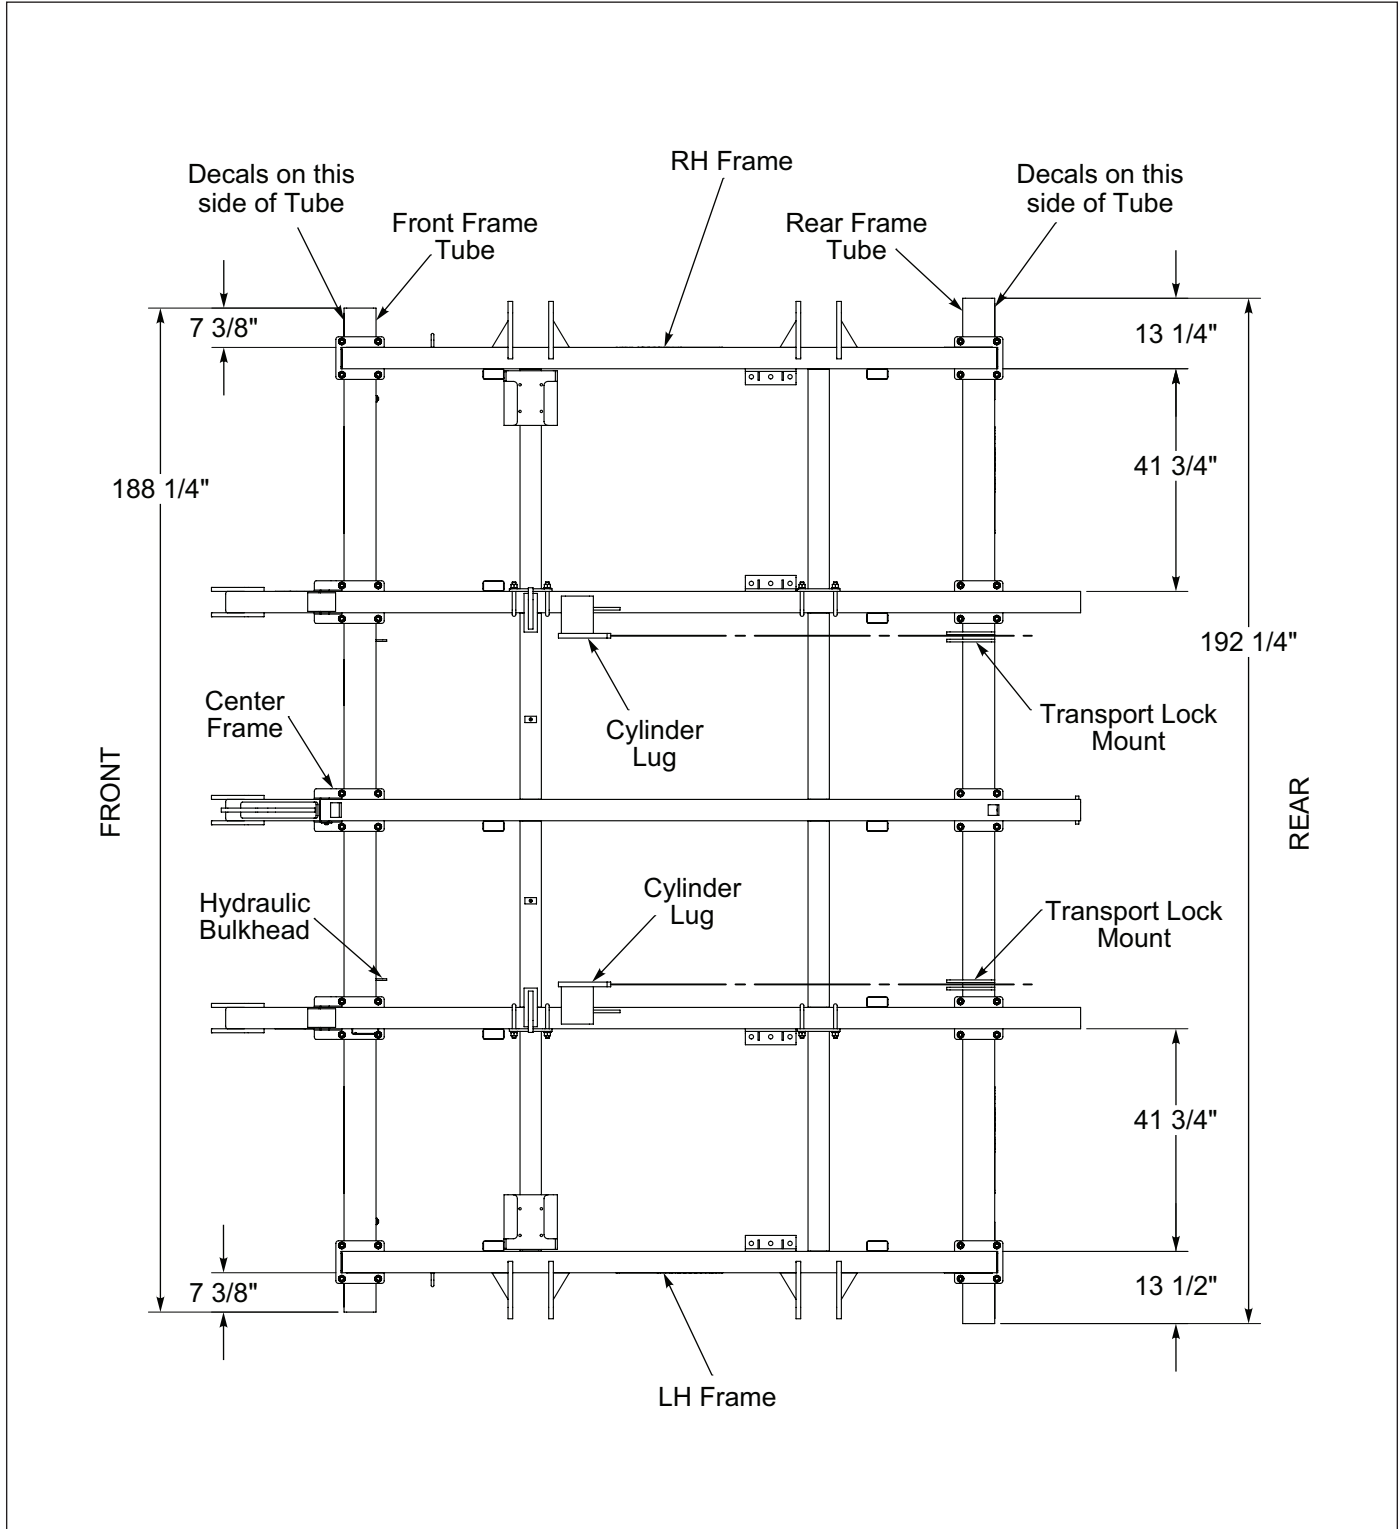

Figure 2-2: Frame Assembly Dimensions
1. Prior to starting assembly refer to **Figure 2-2** for proper frame placement dimensions. After laying out the dimensions use a chalk or other marker to help place the components.